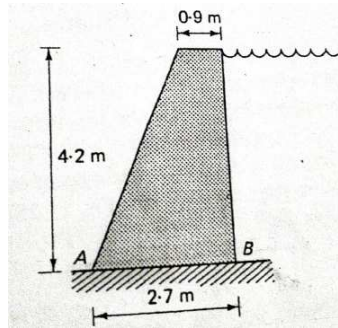

Figure 1
- c) The following diagram in Fig. 1 is a masonry dam, it retains water against the vertical face. Examine the stability condition of the dam with respect to tension in the joints, ground bearing pressure and sliding. The density of masonry is 2100 kg/m^3 . (11 marks)